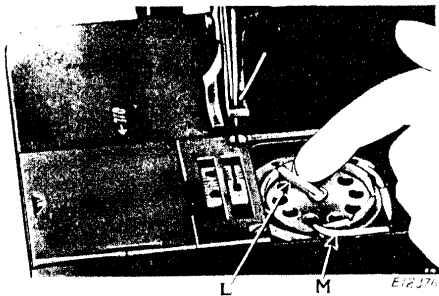
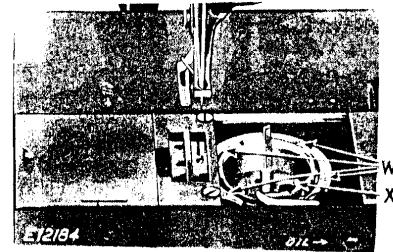
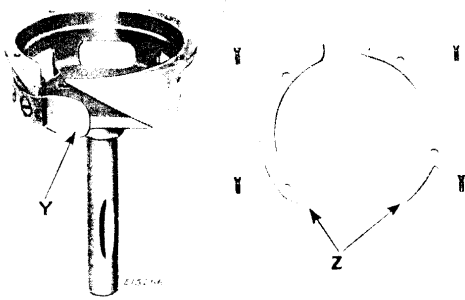

Fig. 7. Removing the Bobbin
Fig. 20. Removing Bobbin Case
Fig. 21. Sewing Hook Removed from Machine Showing Hook Washer
Draw back the slide plate in the bed of the machine and turn the balance wheel until the bobbin case opener (M, Fig. 7) moves clear of the bobbin. With the forefinger or a screwdriver, raise the latch (L) to a vertical position and lift out the bobbin.
The needle guard (Y, Fig. 21), which is attached to the side of the sewing hook, should be sprung until it prevents the needle from striking the hook in case the needle is deflected towards the hook.
Remove the bobbin case opener (M, Fig. 7); remove the four hook gib screws (W, Fig. 20) from the sewing hook, lift off the hook gibs (Z, Fig. 21) and remove the bobbin case (X, Fig. 20).